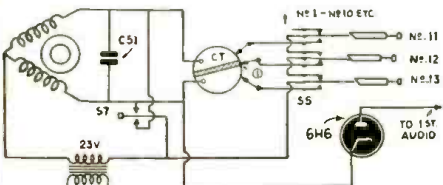

Fig. 1. Schematic of touch-tuning system.
Figure 1 shows a simplified schematic of the control circuit and the following cycle of operation may be traced very easily. When a key is depressed, it completes the 23-volt circuit through the button making contact with the contact segment (CT) and energizes one winding of the motor. The other winding on the motor is energized through the condenser C51. The direction of rotation of the motor is